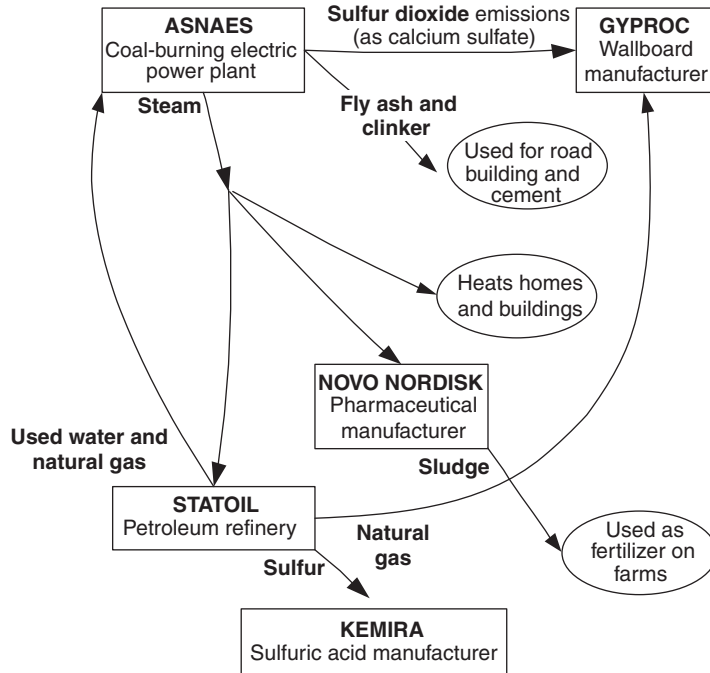

Figure 2.2
Pollution prevention is tremendously attractive, but we cannot avoid all waste and pollution. Moreover, P² alone cannot accomplish other critical environmental aims such as preserving species biodiversity or saving land. What if we could legitimately redefine the word “waste”? Kalundborg, a city in Denmark, is a model of treating wastes as useful by-products in a process called *industrial symbiosis*: by-products, whether material, energy, or water are sold or given to nearby facilities, which use or reuse them (Figure 2.2).
3. Review Figure 2.2. Then consider industrial, municipal, or other facilities in your locale. (a) What is one possibility that exists for industrial symbiosis? (b) What factors – physical location, financial, liability, public policy – could favor such symbiosis? (c) How could waste materials produced or collected by municipal operations (recyclables, sewage) fit into the symbiosis? (d) How about local agricultural wastes?